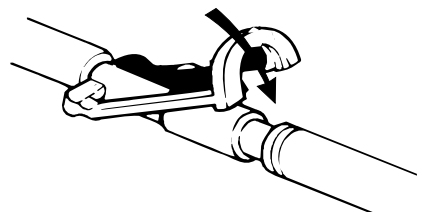
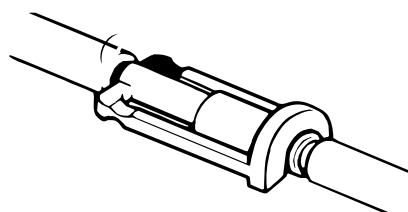

Figure 1-5: Insert fittings
Figure 1-6: Lock ring
2. After you insert fittings (Figure 1-5 on page 14), snap the lock ring into place (Figure 1-6 on page 14)